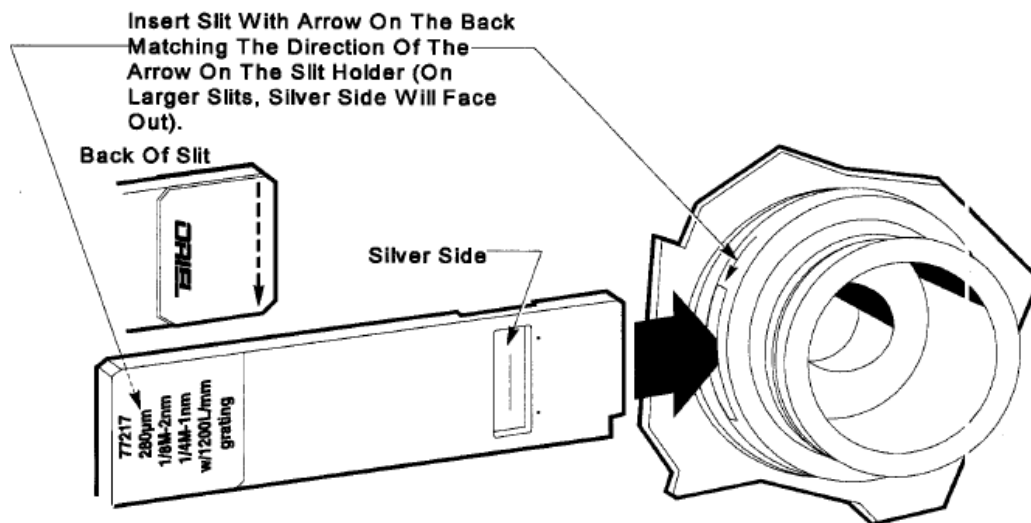

Figure 9: Using Fixed Slits with MS257™
When inserting a fixed slit make sure that the slit plate is correctly oriented. There is a notch on one side of the slit plate and this should match up with a pin inside the fixed slit housing. If the plate is correctly inserted the Oriel logo should face the exterior and the slit should lie in the center of the aperture. Make sure that the slit plate is fully inserted for best reproducibility (See Figure 9).
- If the slit entrance is located on the left side of the slit holder, then the slit should be inserted with the notch located in the lower right corner (this will keep the reflective side facing out). Figure 9 illustrates the correct slit insertion from the left side of the slit holder.